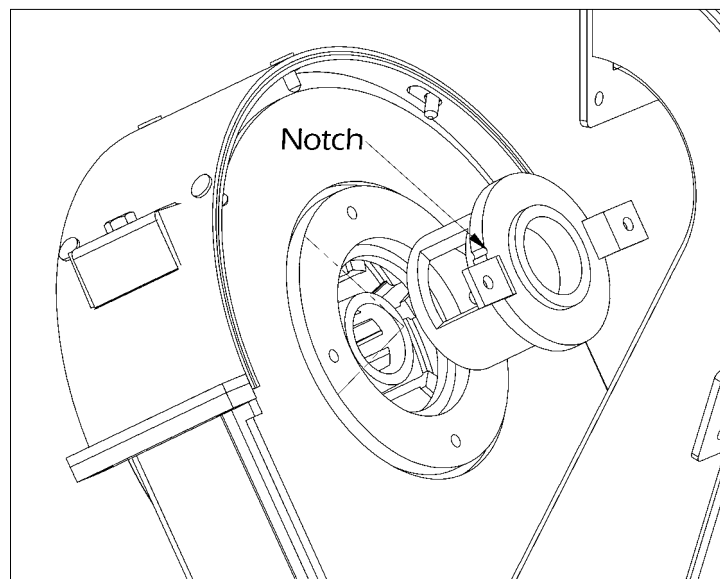

Fig. 7.2
- If the blast wheel is turning counter-clockwise, set the notch of the control cage to imaginary 9.30 of a dial (fig. 7.2).